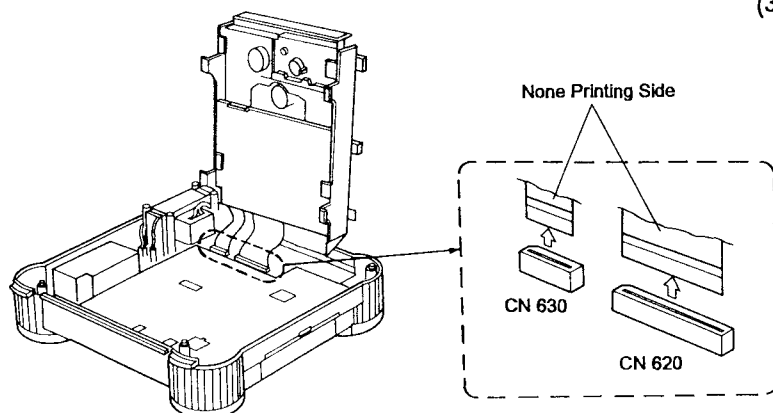

Figure 3
- (3) Gradually raise the front end of the CD-ROM drive and then disconnect the flat cables from two connectors (CN 620, CN 630) as shown in Figure 3.